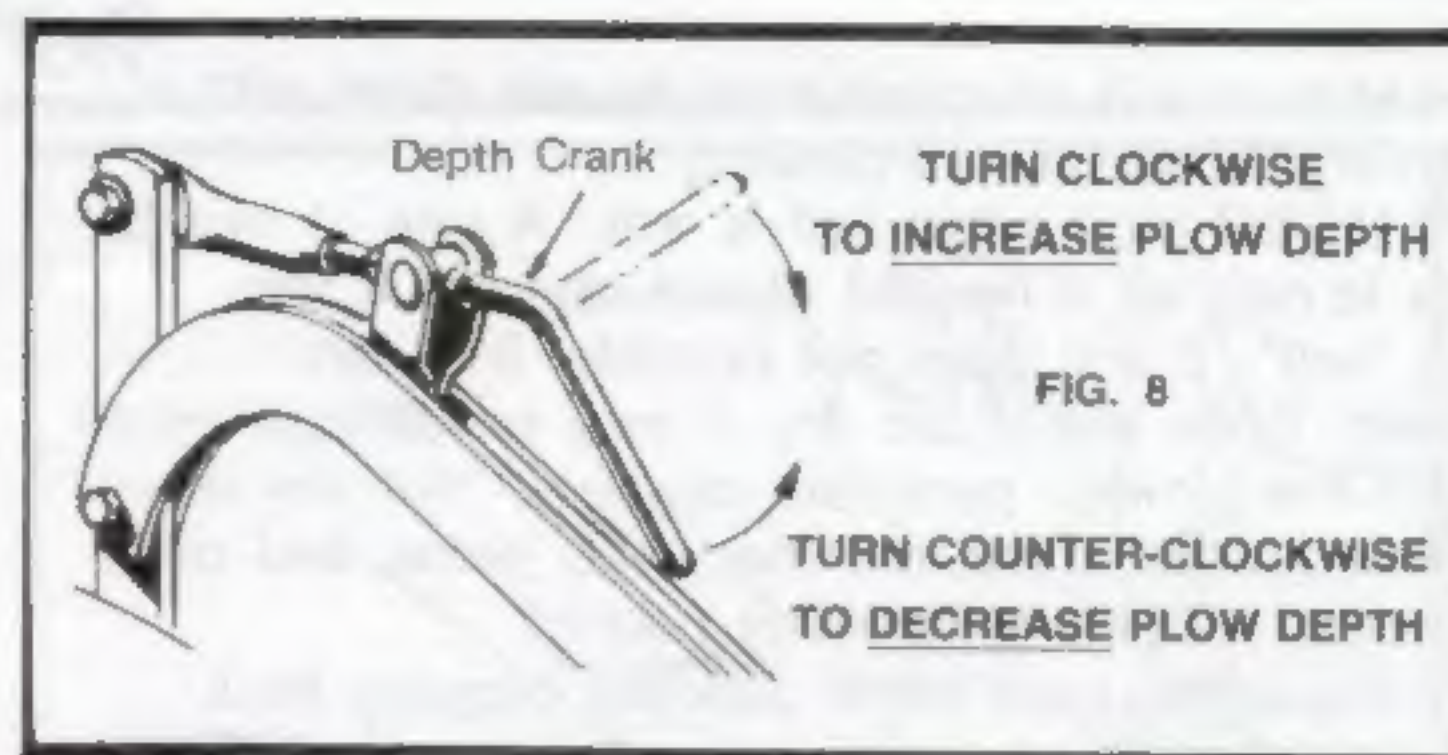

FIG. 8
- If your Plow is not plowing at 4" to 5" deep on your initial two passes, readjust the Plow Depth Crank by turning it clockwise (↻) to go deeper or counter-clockwise (↺) to go shallower. (See Fig. 8) Make this adjustment ONE TURN at a time until desired depth is obtained.
Refer to Fig. 8